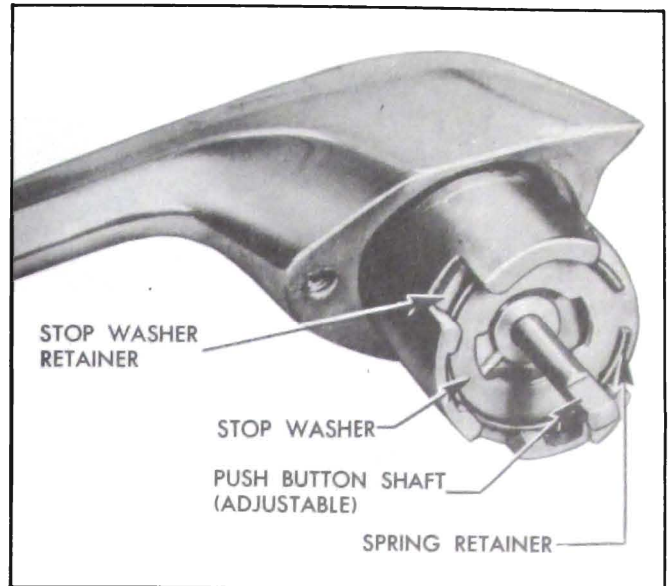

Figure 13-66—Rear Door Outside Handle Assembly
3. To assemble rear door outside handle, reverse disassembly procedure. Figure 13-66 shows the handle assembled.